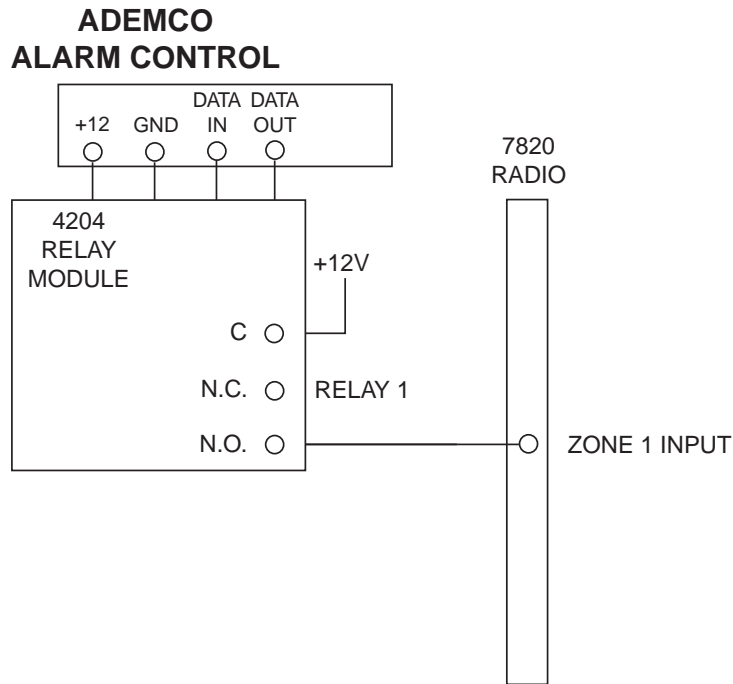

Figure 4: Wiring the 7820 Zone 1 Input to be triggered by an ADEMCO 4204 Output Relay.
2. Connect the N.O. contact of the relay to the input zone. When the relay is activated, voltage will be applied to the zone, causing the radio to send its message (see Figure 4 below).